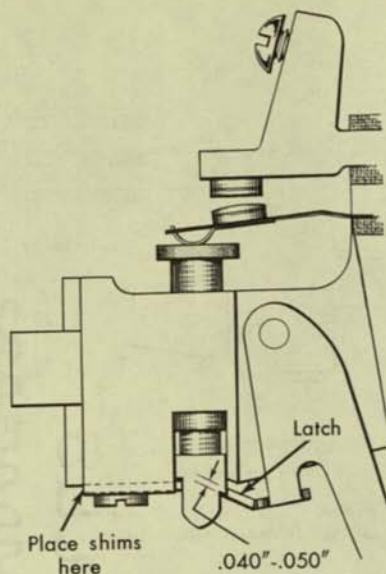

Figure 11. Latching Plunger Circuit Breaker, Adjustment 2
2. Place shims beneath the plunger stop plate as required to obtain a .040" to .050" travel of the plunger before latching up occurs (Figure 11). If the contact plunger is overlapped by the latch by an amount equal to the thickness of the latch metal, this should provide the .040" to .050" travel. When the latch arm is unlatched, a pressure of 45 grams plus or minus 5 grams, applied at the point where the unlatching cam operates against the latch arm should move the latch away from the plunger.